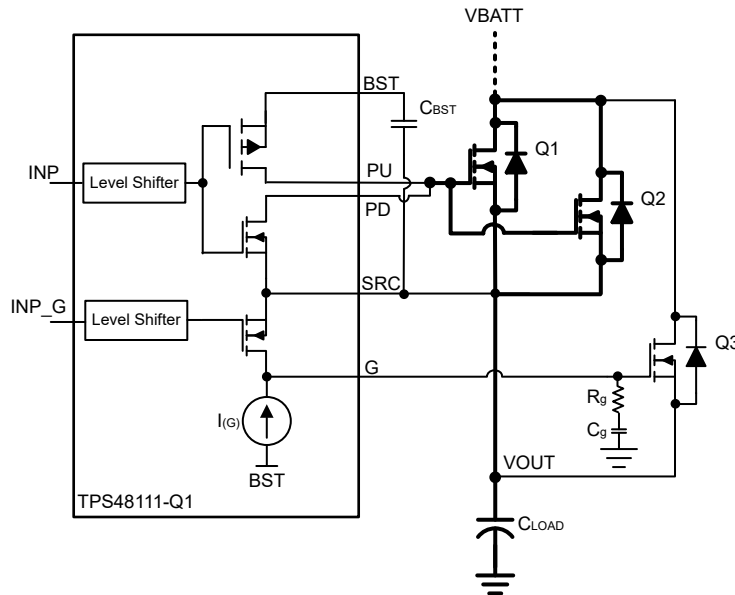

Figure 9-7. Capacitor Charging Using Gate Slew Rate Control of Precharge FET
The TPS48111-Q1 integrates precharge gate driver (G) with a dedicated control input (INP_G). This feature can be used to drive a separate FET that can be used to precharge the capacitive load. Figure 9-7 shows the precharge FET implementation for capacitive load charging using TPS48111-Q1. An external capacitor C_{g} reduces the gate turn-ON slew rate and controls the inrush current.